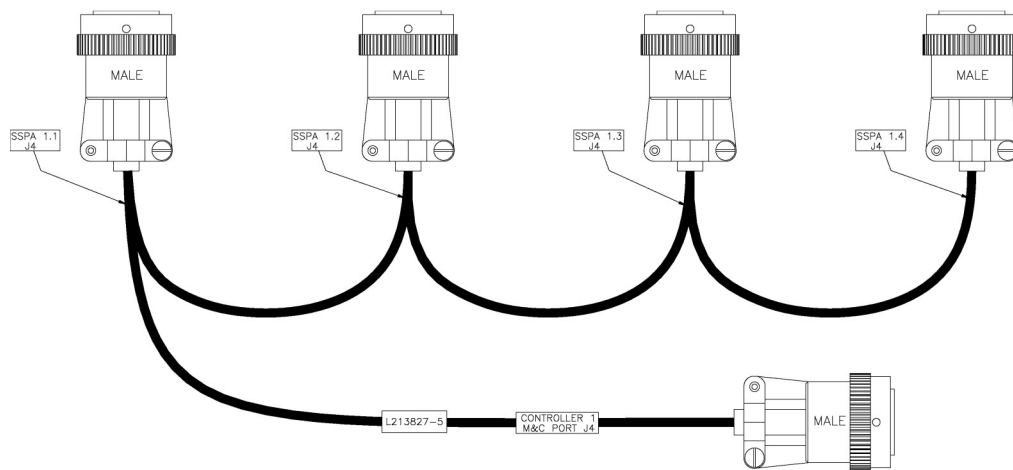

Figure 2-25: SSPA Module M&C Cable, L213827-5 (4-Way Systems)
The cable used in 4-Way Systems is: part number L213827-5 for all four (4) SSPA modules connected to Controller 1. See **Figure 2-25**.